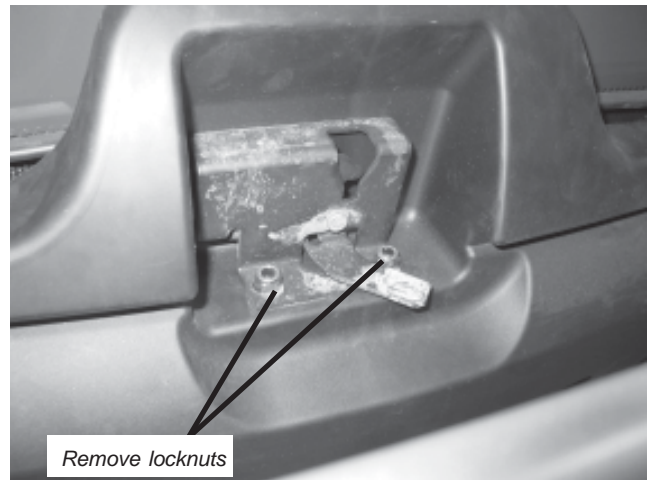

Figure 4
4. Remove two hood latch locknuts, using a 13mm socket, as shown in Figure 4. Remove hood latch mechanism from vehicle and carefully lift grill upward and away from vehicle.